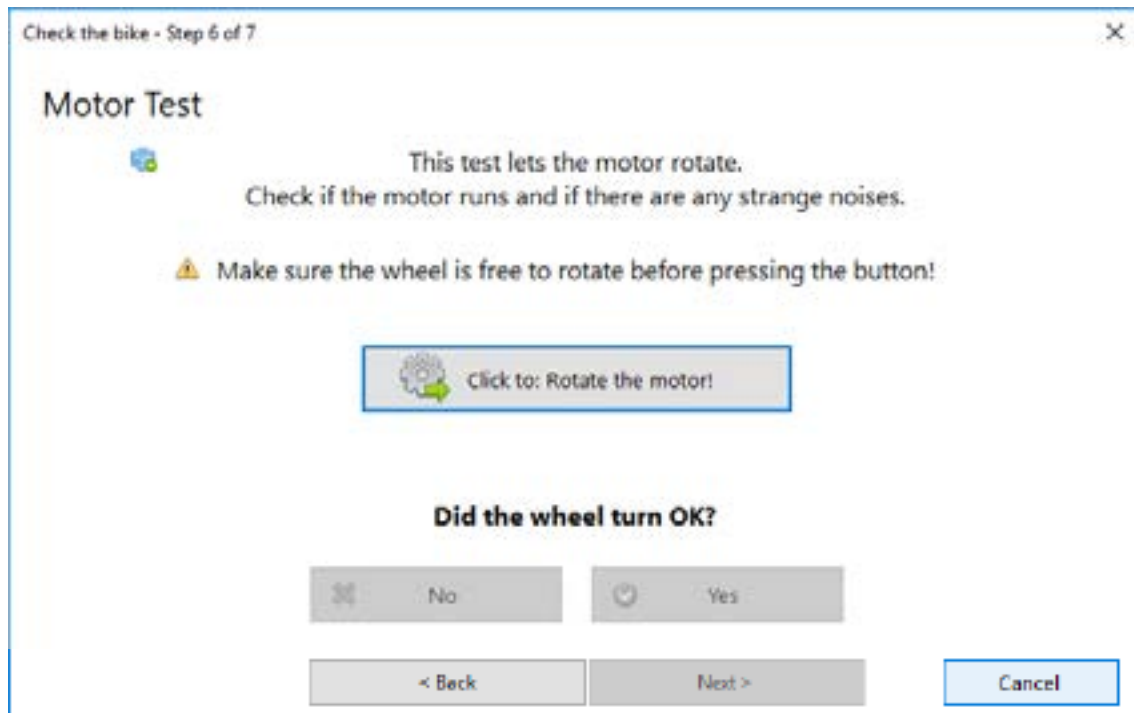

Figure 3.55 Motor test – starting
6. **Motor test** – To start the motor test, click on the “Click to: Rotate the motor!” (Fig. 3.55). The motor should start immediately. Ensure the motor is running smoothly and not emitting unusual noises or sounds.